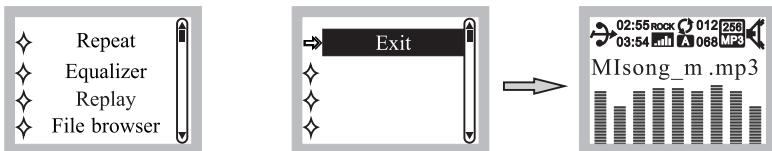

Fig. 16
- (J) Exit: In exit option, press PLAY/PAUSE  to return to the playback mode, Fig. 16.